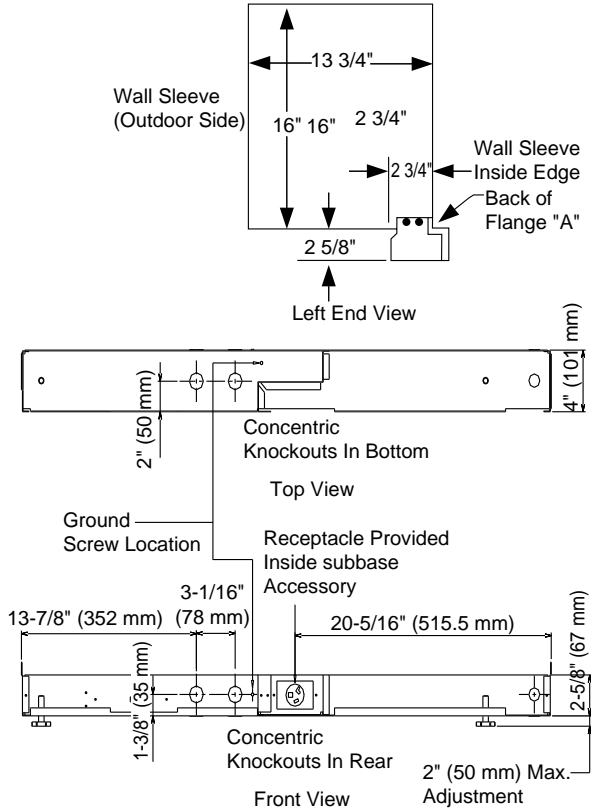

Figure 59 - Wiring Diagram
7. Wire subbase for appropriate voltage (Figure 59, next page).